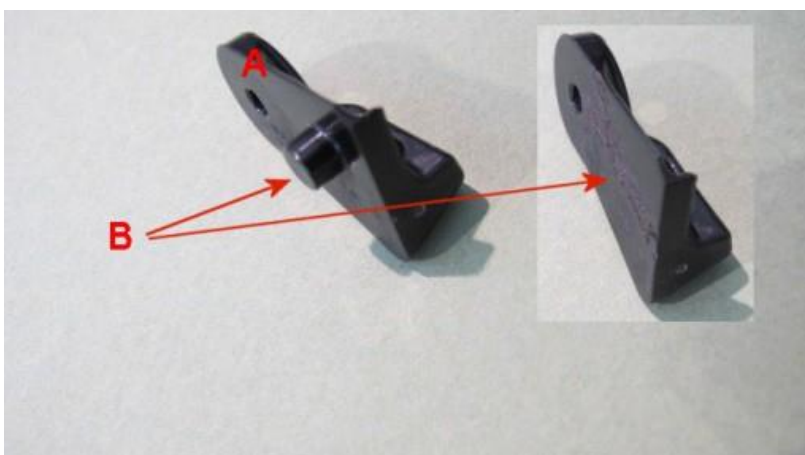

Figure 2
1. Take guide A and remove, cut off, the original locating peg B (see Figure 2)